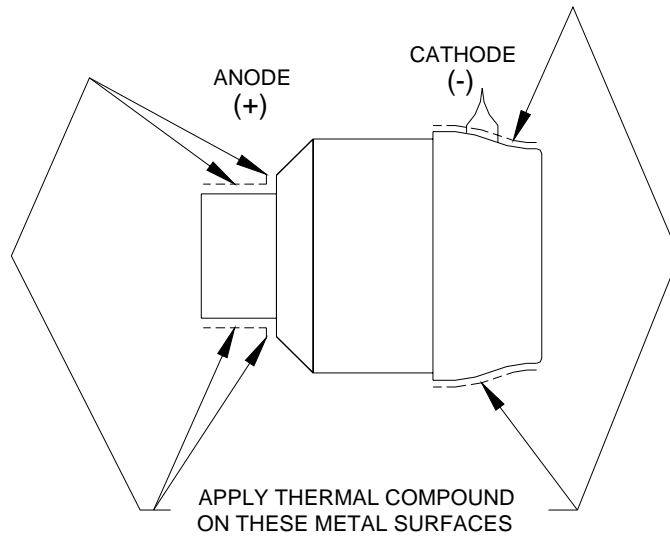

Fig 3. Thermal Compound Application
6. Apply a light coat of the thermal compound (supplied with the lamp) on the window collar (cathode side -) of the lamp. See Figure 3. Insert the lamp into the cathode heat sink by aligning the pinch off tube with the recess in the heat sink. Secure the lamp by replacing the clip.
7. Apply a light coat of the thermal compound (supplied with the lamp) on the anode base and rear of the lamp. See Figure 3. Insert the anode base into the anode heat sink such that the terminal holes are aligned to each other and assuring the rear of the lamp comes in contact with the heat sink. Secure the lamp by replacing the clip.